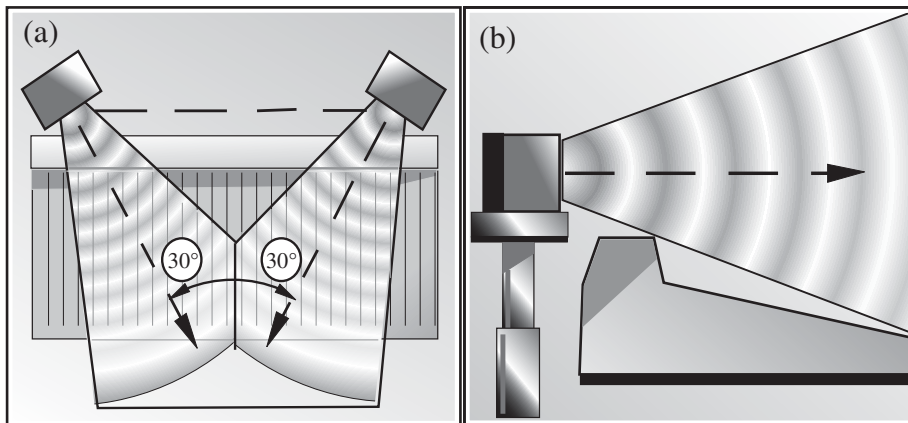

FIGURE 8.2
- **Position of power.** Figure 8.2 (a) shows the nearfield studio monitors and the listener's ears in a triangle. With the monitors equidistant from the listener's ears, the mix of left and right arrives at both ears simultaneously. Figure 8.2 (b) shows that monitor speakers on stands produce less console reflections. Placing woofers at ear level is less crucial as the low frequencies are less directional.